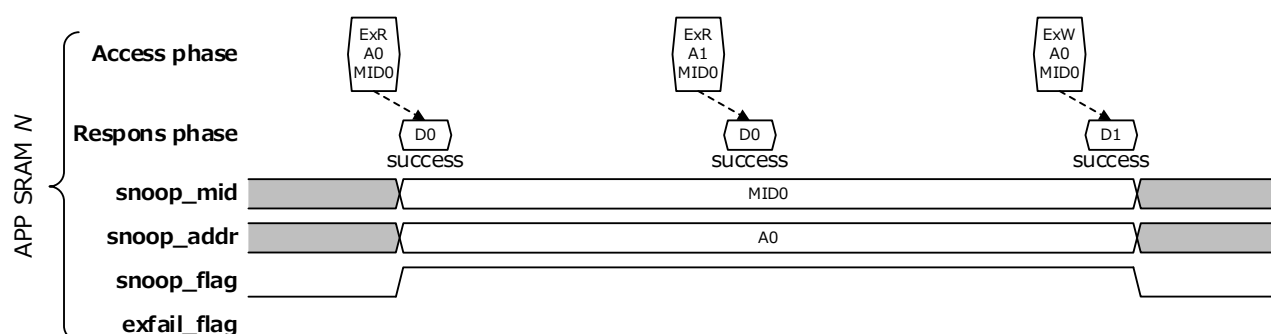

Figure APP-112 Success Case 2 of Exclusive Access
- An exclusive read access always receives “success” response. That is, “success” is returned even during one exclusive read access’s snooping, another exclusive read access has occurred. After the other exclusive read access’s occurrence, “success” is returned to the exclusive write access to the target address to snoop, issued from the master obtaining exclusive access right. (refer to Figure APP-112)